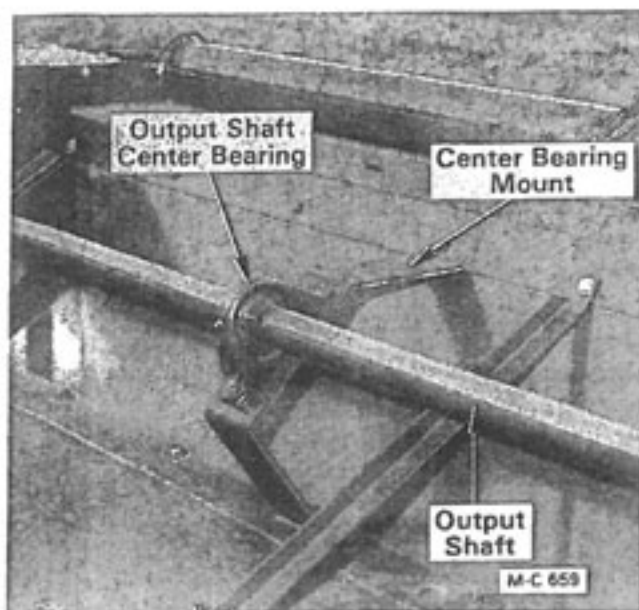

Figure 45
7. Place the new bearing on the center bearing mount with the lubrication fitting facing to the front, see Figure 45. Bolt the bearing to the bearing mount loosely. Loosen the two set screws in the bearing lock collar.